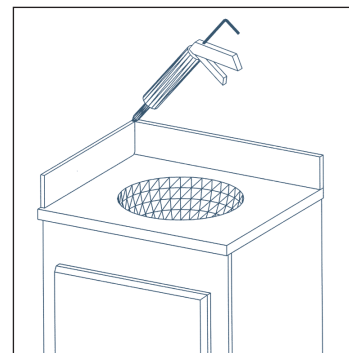

Figure 3
11. Apply a thin bead of caulk around all of the joints, such as the one between the top of the back splash and the wall, the side splash and the wall, the vanity top and the back splash, and the vanity top and the side splash. See Figure 3.